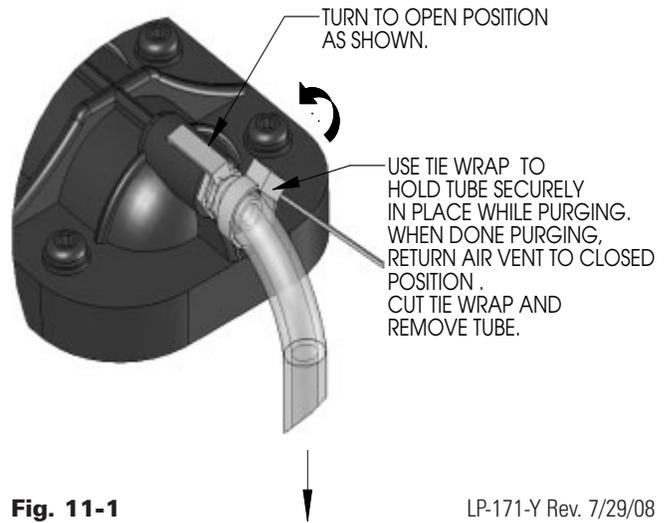

Fig. 11-1
- f. One zone at a time, open the isolation valves. Allow water to run through the zone, pushing out the air. Run until no noticeable air flow is present. Close the zone isolation valves and proceed with the next zone. Follow this procedure until all zones are purged. After all the zones are purged, open the manual air vent on the top of the heat exchanger as illustrated in figure 11-1. Purge out all air that may have accumulated in the header to avoid air entrapment in the system.